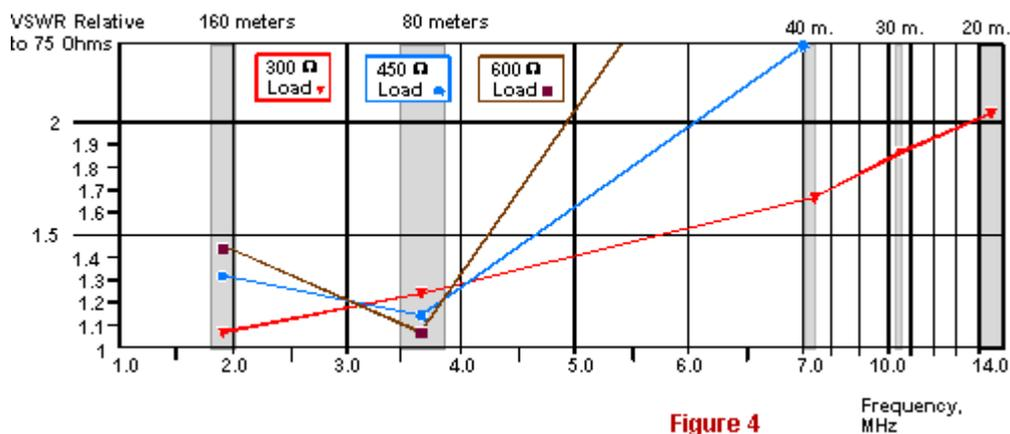

Figure 4
- A VSWR relative to 75 Ohms vs. frequency (**Fig. 4**),